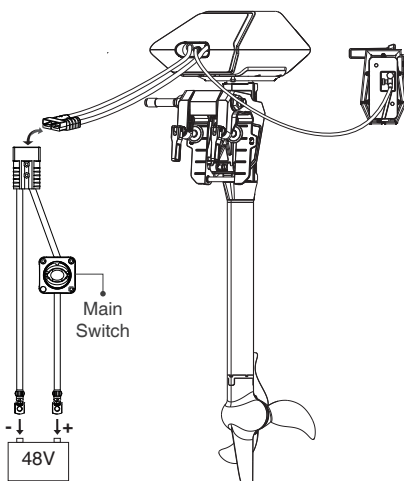

Figure 6-3
**Step2:** Connect NAVY outboard and Remote Control with a communication cable. Please refer to Figure 6-3.